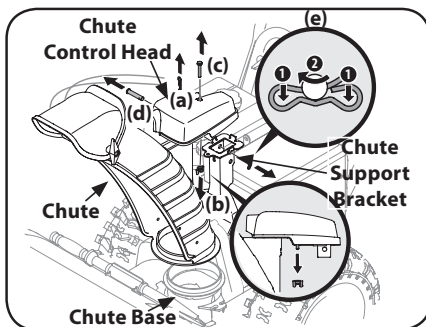

Figure 2-36
1. Remove cotter pin (a), wing nut (b) and hex screw (c) from chute control head. Remove clevis pin (d) and bow-tie cotter pin (e) from chute support bracket. See Figure 2-36.